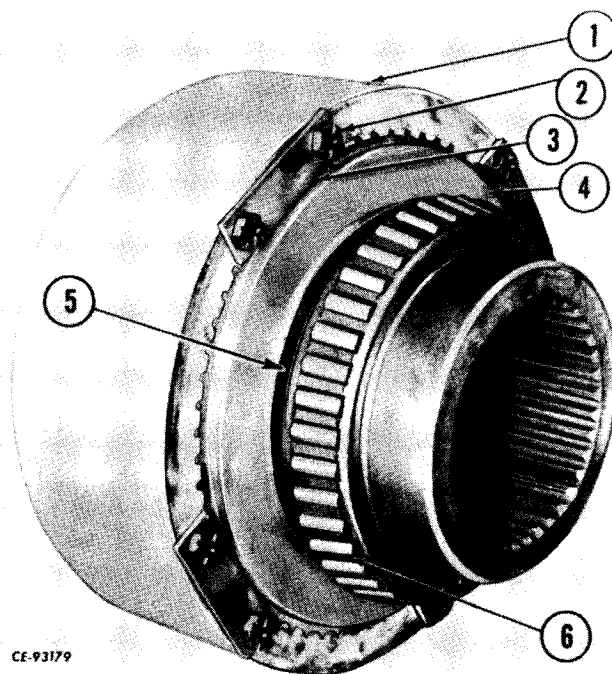

Figure 6-71
Remove cap screws (2, Fig. 6-71) and lock-plates (3) that secure ring gear (1) to ring gear hub (4). Remove ring gear.
Install spacer (5, Fig. 6-71) on ring gear hub (4).